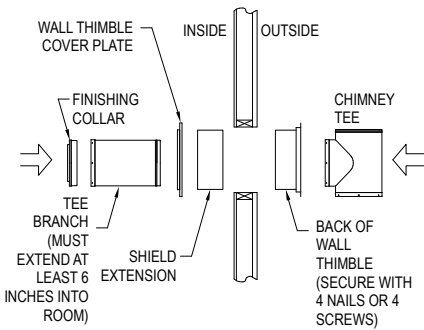

Figure 20
shield. On the outside wall, install the back portion of the Wall Thimble. Center the back portion of the Wall Thimble (with shield inside wall) in the framed opening of the outside wall. Be sure to seal the flange of the Wall Thimble around the wall by using a non-hardening waterproof sealant. Attach the back portion of the Wall Thimble to the outside wall using at least (4) 8-penny nails or (4) 1-1/2” wood screws (**Fig 20**). Depending on the thickness of your wall, you will need to adjust the shield extension to insure that you have a continuous shield throughout the wall penetration. Adjustments can be made by sliding the extension in or out of the back portion of the shield. Verify that the shield extension reaches the front cover plate when the cover plate is in position. Do not install cover plate at this time. When the shield extension is in position, secure it to the back portion of the shield using (4) sheet metal screws (**Fig 20**).
**Important:** The Chimney section used to penetrate through the wall must extend at least 6" into the room. Secure the Chimney Branch to the Tee by using the (6) sheet metal screws provided. It is very important that a good connection is made between the Branch and the Tee. (**Fig 20 & 21**) Install the Tee Cap in the bottom of the Tee, on the underside of the Tee Support Bracket. Be sure that the Tee Cap is securely inserted into the bottom of the chimney pipe. Secure the Tee Cap in place by attaching the Tee Cap Retainer Bar using the two (2) bolts included (**Fig 19**).